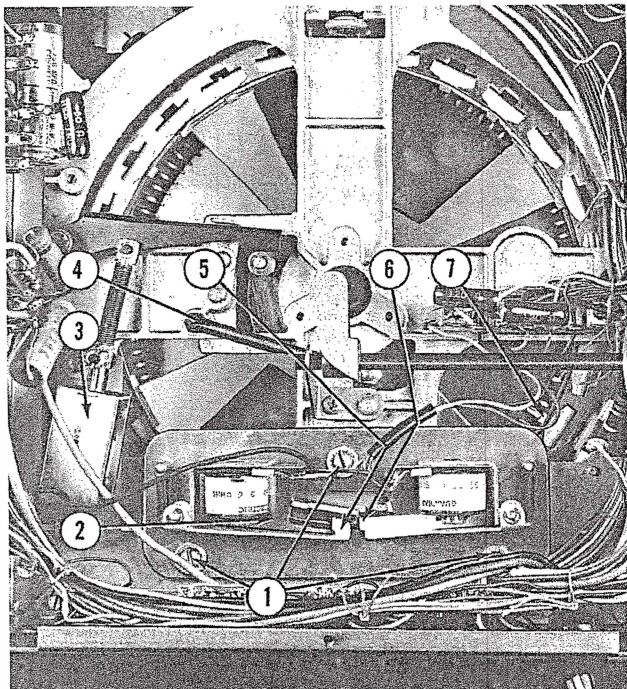

Fig. 36. ELECTRIC SELECTOR ASSEMBLY
(1) The rocker plate is adjusted in its normal at rest position by loosening the 3 mounting screws (Fig. 36, Item 1) and shifting the stop coil assembly (Item 2) to locate the tips of the 26 rocker arms in alignment with the number 1 to 26 selector
(2) Manually operate "B" stop lever (Fig. 36, Item 5) and move the rocker plate to rest against the "B" stop (Item 5) and check the alignment of selector pins 1 to 26 in the "B" group with the tips of the rocker arms. Should adjustment be necessary the stop tab may be formed. Manually operate the "C" stop armature (Item 6) and move the rocker plate to the "C" stop position. The tips of the 26 rocker arms should align with the 26 pins in the "C" group. The stop tab on the "C" stop magnet armature may be formed if adjustment is required.